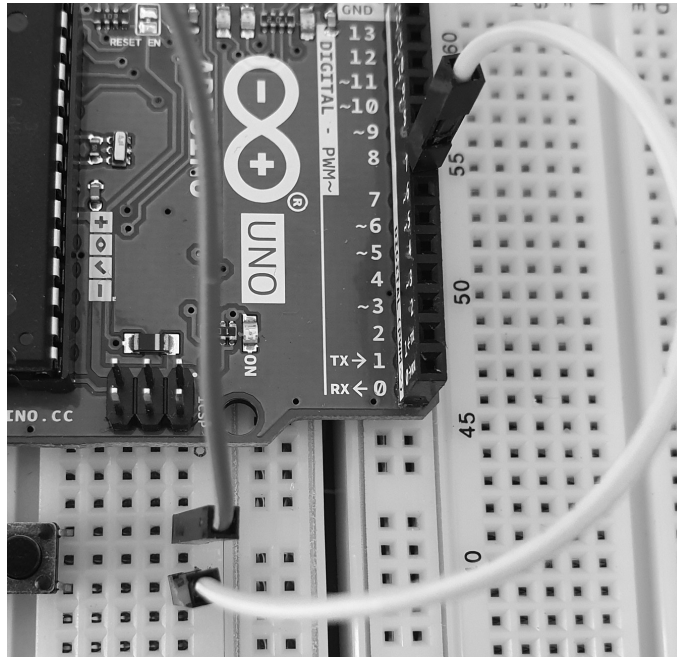

Figure 4-23: Connecting the button to the digital input
4. Run a wire from Arduino digital pin 7 to the lower-right row for the button on the breadboard, as shown in Figure 4-23.